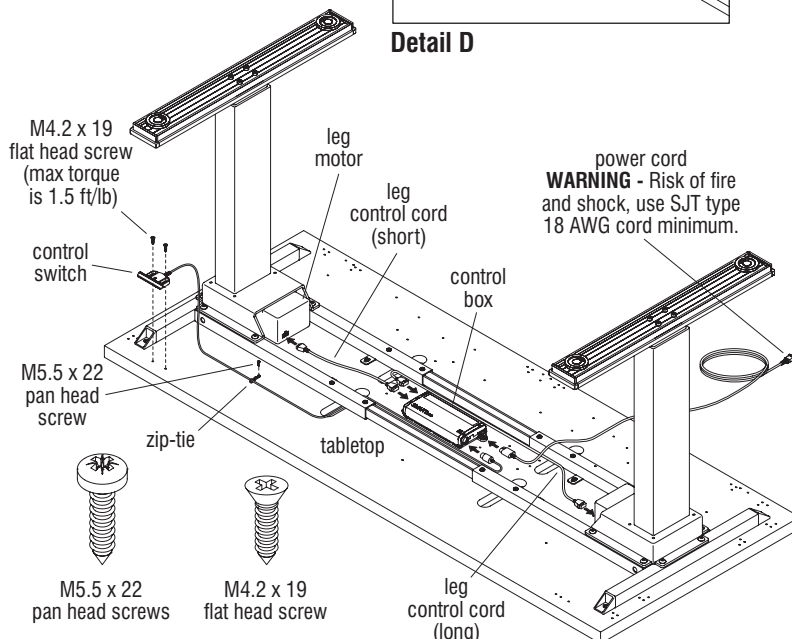

Figure 4
1. Plug the longer leg control cord into one of the two rectangular sockets on the control box, then route cord to the leg farthest from control box. Use cord routing slots in the table to route under the cross tubes and/or use zip ties secured with screws at pre-drilled locations. Plug other end of the longer leg control cord into the open socket on leg motor (Figure 4 & Detail B).
2. The next rectangular socket on the control box is utilized by the shorter leg control cord. Plug the short leg cord into the control box and route it to the leg motor socket that is closest to the control box. Use cord routing slots in the table to route under the cross tubes. Plug other end of the shorter leg control cord into the open socket on leg motor (Figure 4 & Detail B).
3. The control switch mounts on the front underside of the tabletop (Figure 3). Using pre-drilled holes, secure the switch to the tabletop with two M4.2 x 19 flat head screws at 1.5 ft/lb. **Note:** Do not overtighten the screws. Once switch is mounted, route the attached cord to the control box. Use Figure 3 for cord routing reference and for the optimal usage of zip tie points. Once the hand switch cord is routed to the control box, plug the cord into the round socket on box (Figure 4 & Detail C).
4. Six zip-ties are included for keeping cords tight to the table, but it is not necessary to use all six. Using Figure 4 for reference, wrap the zip-ties around the loose cords and then mount the zip-tie to the tabletop with a M5.5 x 22 pan head screw into the pre-drilled holes. The zip-ties have a built in mounting hole which must lay flat onto the surface. Make sure zip-ties and cables are snug before moving to the next step (Figure 4 & Detail D).
5. The final cord to be installed is the power cord. Plug power cord into the remaining open socket which is oval shaped. Cord should not be zip-tied or routed through cut outs on table (Figure 4 & Detail B). Do not plug it into a power source at this time.